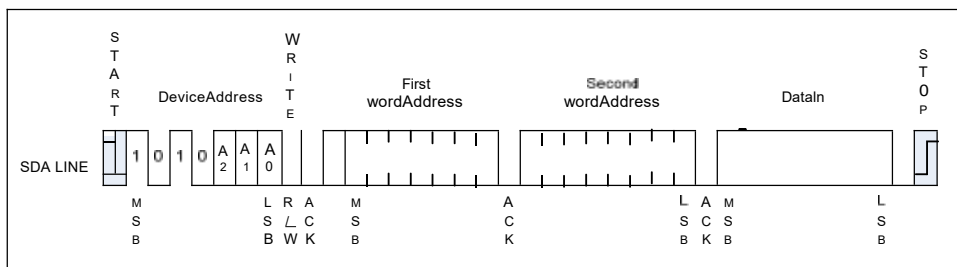

Figure6 Byte Write
**BYTE WRITE:** A write operation requires two 8-bit data word address following the device address word and acknowledgment. Upon receipt of this address, the BM24C512E will again respond with a “0” and then clock in the first 8-bit data word. Following receipt of the 8-bit data word, the BM24C512E will output a “0” and the addressing device, such as a microcontroller, must terminate the write sequence with a stop condition. At this time the EEPROM enters an internally timed write cycle, to the nonvolatile memory. All inputs are disabled during this write cycle and the EEPROM will not respond until the write is complete (see Figure 6).